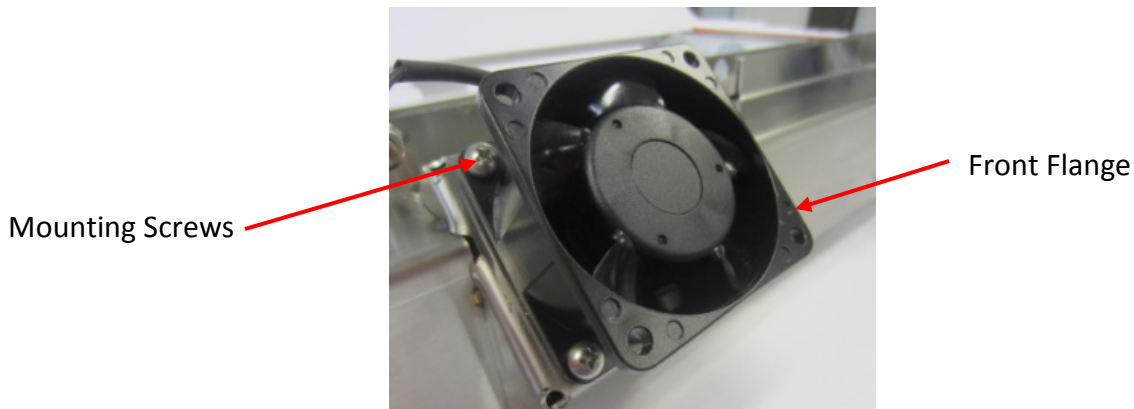

Figure 6-35-1
9. Sliding a small screwdriver through the front flange, remove the four fan mounting screws (Refer to Figure 6-35-1).
2. Confirm controller is showing current ambient temperature (Refer to Figure 6-35-1).